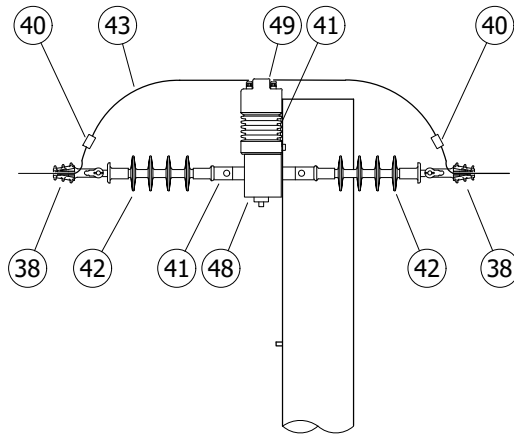

FIGURE 3
- * SEE FIGURE 3 FOR ALTERNATE DEADEND ARRANGEMENT.